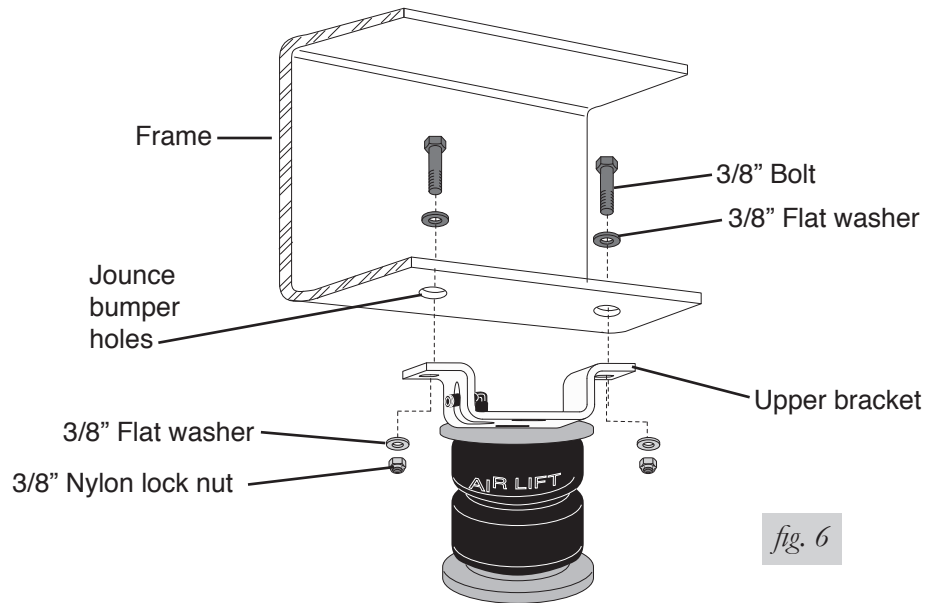

fig. 6
2. Insert two 3/8" bolts (H) and flat washers (J) through the existing jounce bumper holes and through the slotted holes in the upper bracket (Fig. 6).
3. Attach the upper bracket using two flat washers (J) and nylon lock nuts (L) on each previously installed bolt (Fig. 6).
*There should be a thumbs width between the bellows roll plate (D) and the leaf spring U-bolt.*